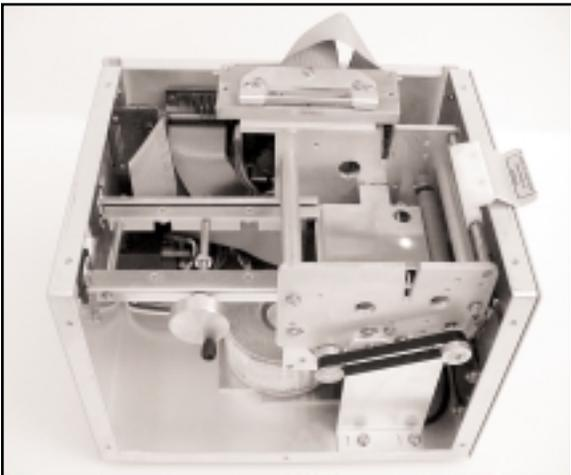

Figure 9c - Print Head removal
5. Clean the thermal print head surface (the side that makes contact with the paper) with isopropyl alcohol and Q-tip or soft paper towel. (see **figure 9c**)